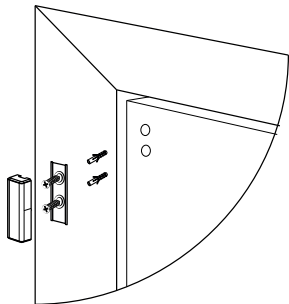

Figure 6: Magnet screw installation
3. Screw the magnet base on to the door. See Figure 6. Align the magnet and device directed according to the location marks. See Figure 3.